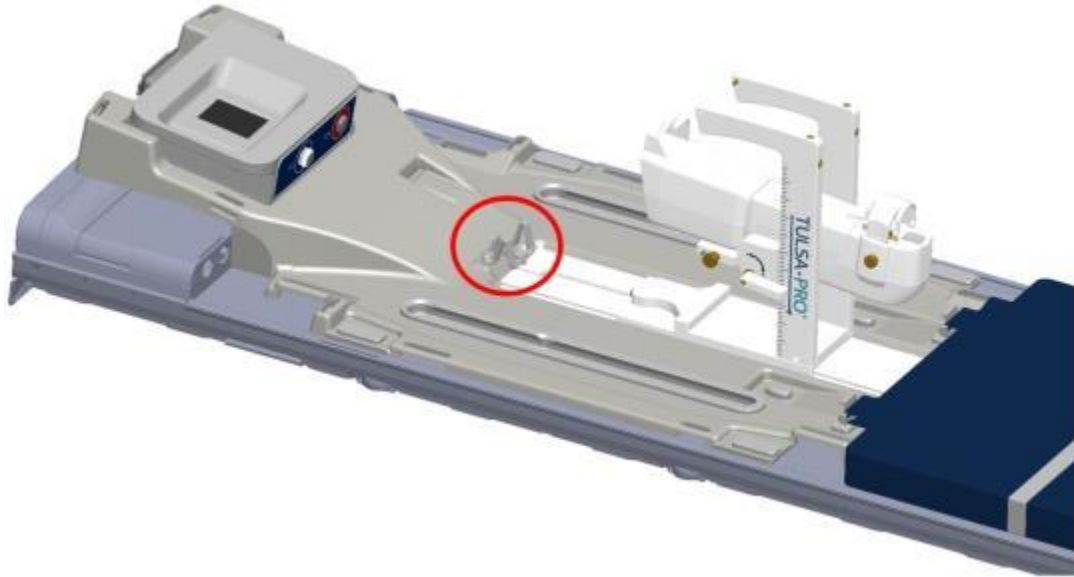

Figure 22: Secure the Positioning System using the latch on the base plate
2. **MRI Technologist:** Ensure that the slot for the PSIB is clear. Place the PS and PSIB in their respective slots on the base plate. Secure the Positioning System (PS) to its slot on the base plate between the patient's legs by closing the latch (*Figure 22*).